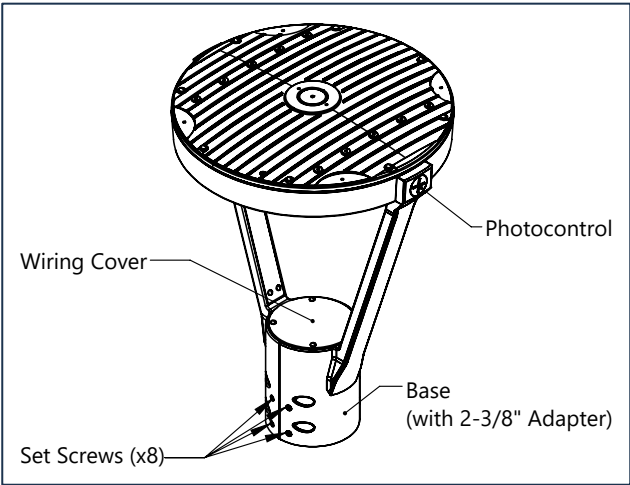

Figure 1
1. Loosen the eight (8) set screws from the base and then remove the wiring cover (**Figure 1**).